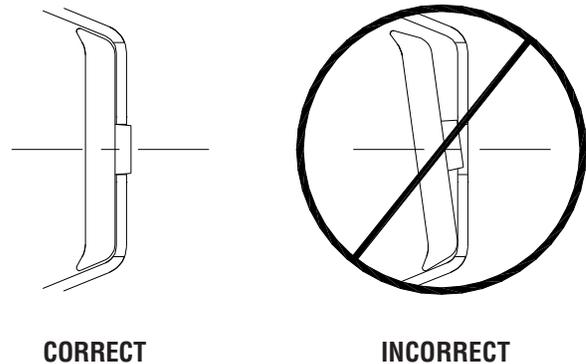

Figure 73
- 5) Be sure all mushroom washer assemblies are properly aligned and positioned (see Figure 73).